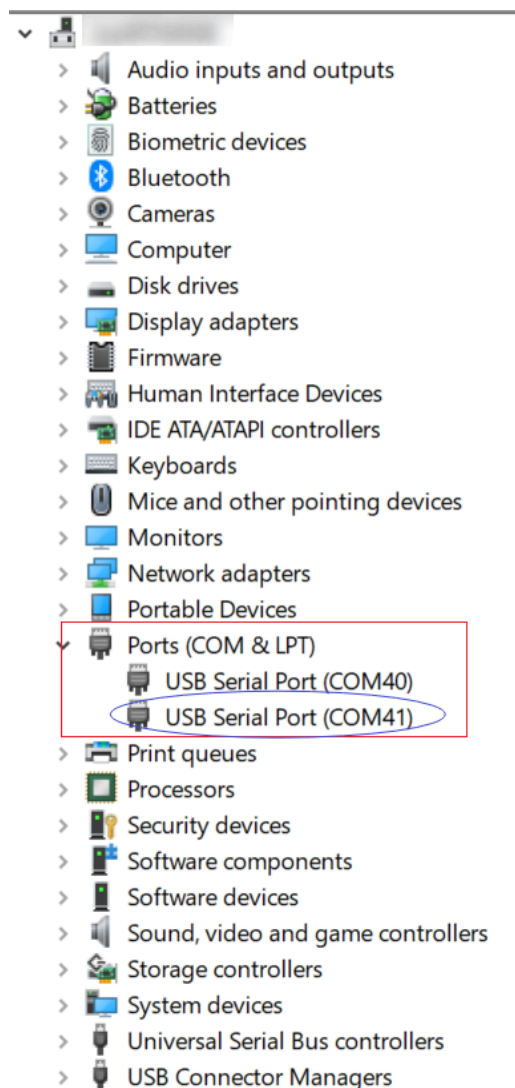

Figure 8 - New COM Ports from the Interface Board of ATM2/ATM3 EVK
- Plug the other end of the USB cable into the Windows computer, and Windows will install the FTDI USB-to-serial driver automatically. After the driver is installed, the device shows as a COM port in the Windows Device Manager. See Figure 8.